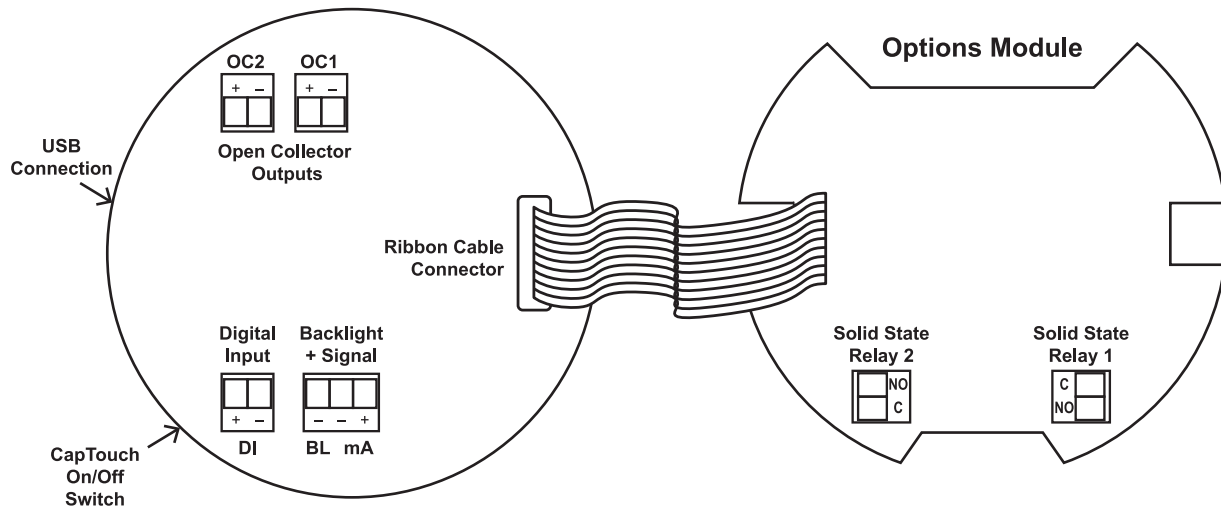

Figure 5. Connector Labeling for PD6907-HA-##-L2N
Relay connections are made to two-terminal connectors, as shown on Figure 5, page 21. Each relay's C terminal is common only to the normally open (NO) contact of the corresponding relay.